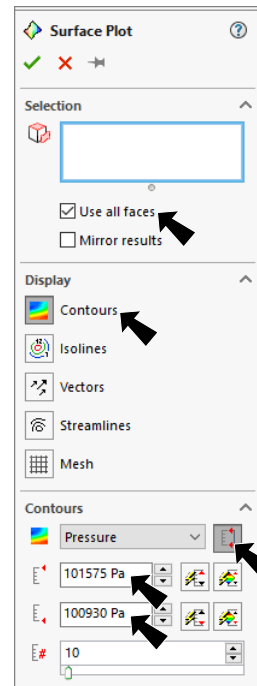

Fig. 19
Step 3. In the Surface Plot Property Manager, set: under Selection, **Fig. 19**